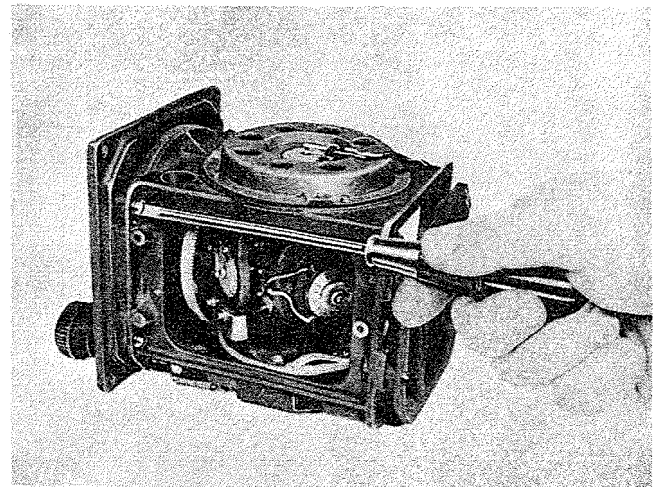

Figure 12
(4) Take out the four fillister-head machine screws and lock washers, and withdraw the front panel assembly. (See figure 12.)
(5) Take out the four fillister-head machine screws and lock washers, and withdraw the front panel assembly. (See figure 12.)